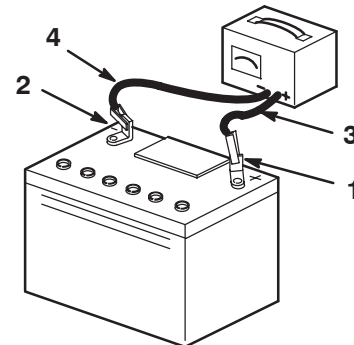

Figure 34
4. When the battery is fully charged, unplug the charger from the electrical outlet, then disconnect the charger leads from the battery posts (Fig. 34).